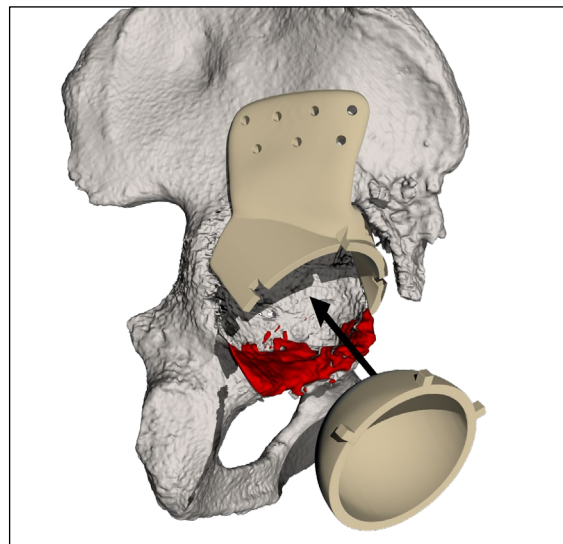

Figure 7: Use of **Modular Trial Cup** and **Modular Reaming Trial**.
- After reaming the acetabulum, place the modular trial on the bone and use **3.2mm smooth trocar tip pins** to secure the **Modular Trial Cup** to the bone (Figure 7).